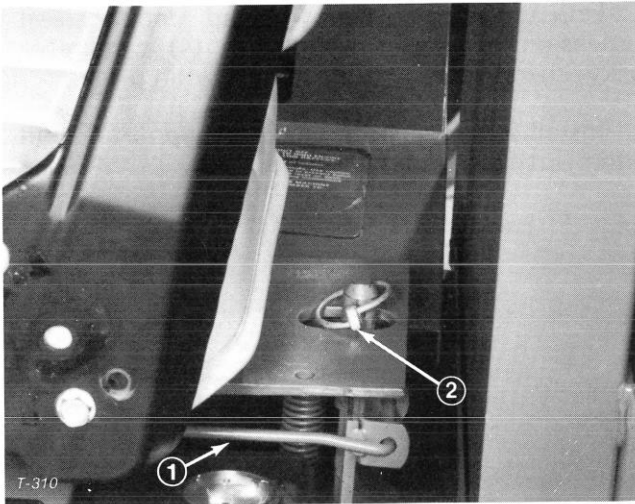

Figure 12
6. Disengage seat support rod and slide it into retaining clips (Fig. 12). Pivot seat down and push lynch pin through seat latch stud. Flip wire end of pin over latch stud (Fig. 12).